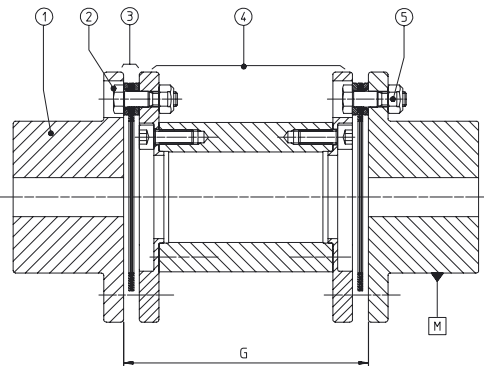

FIG. 1
4.1.2 Position the machines to be connected and check distance G between the hubs (fig. 1). See tabulation or approved drawing for distance G following type of coupling. In case of doubt, please consult us.